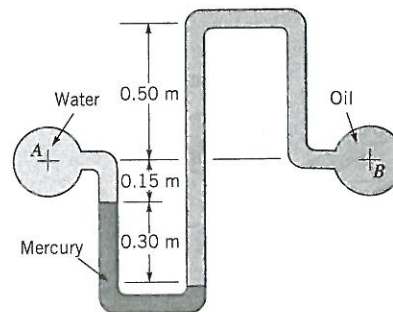

Figure P2.59
2.59 The mercury manometer of Fig. P2.59 indicates a differential reading of 0.30 m when the pressure in pipe A is 30-mm Hg vacuum. Determine the pressure in pipe B.